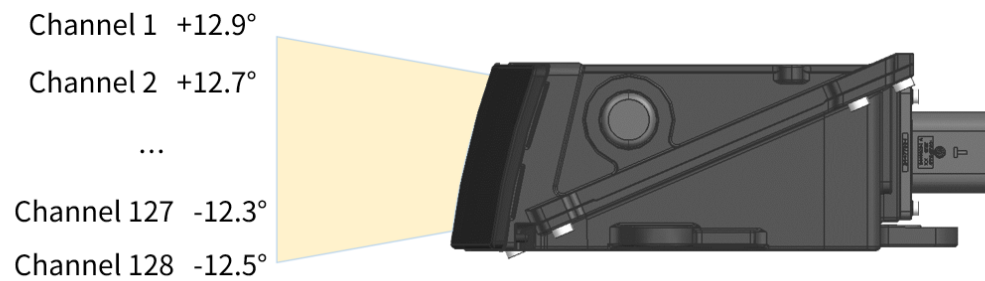

Figure 4. Channel vertical distribution
- The designed vertical resolution is  $0.2^\circ$  across the FOV, as shown in Figure 4 and detailed in Appendix A Channel distribution data.